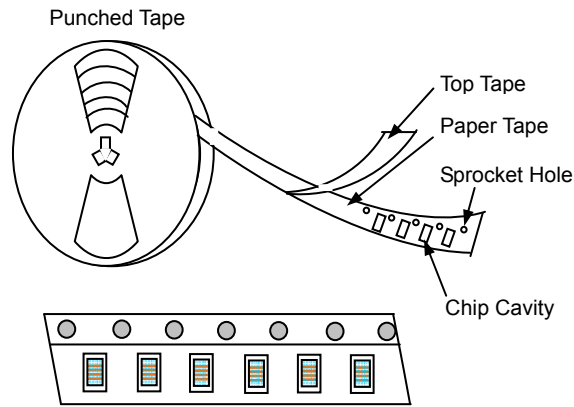

Fig. 6.1-1
i. Tape carrier packaging are specified in attached figure **Fig.6.1-1~4**